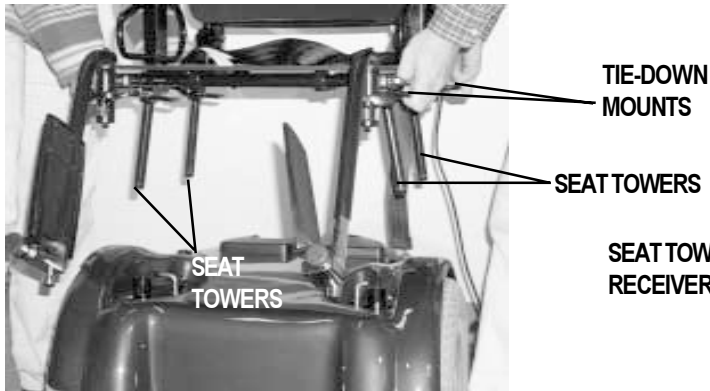

FIGURE 2. Position Seat over Base
1. Position the Versa Seat with Manual Recline over the Power Chair base. This is best accomplished by having a person on either side of the Power Chair base, holding the Versa Seat with Manual Recline by its tie-down mounts. See figure 2.